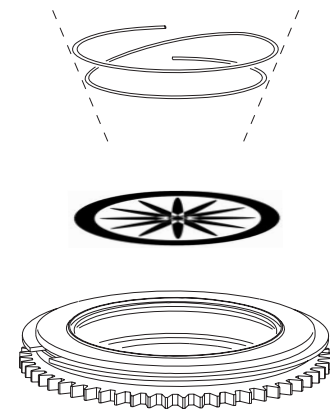
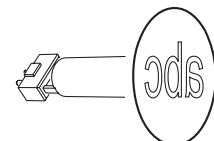

Figure 22: Rotating gobo holder
Figure 23. Correct gobo orientation
Correct gobo orientation is critical. Read the guidelines in Figure 23 carefully before installing a gobo.
5. Insert the new gobo in the holder with the side that must face towards the lamp facing upwards, towards the spring (see Figure 22 and Figure 23).
6. Insert the spring with the narrow end against the gobo, as shown in Figure 22. To identify the narrow end, press the spring flat: the narrow end is on the inside. Push the end of the spring in under the lip of the holder.
The orientations shown in Figure 23 are correct in most cases, but consult your Martin dealer or gobo supplier if you are in any doubt about the orientation of a specific gobo type. To minimize the risk of heat damage, priority must be given to installing gobos with their more reflective sides facing the lamp.